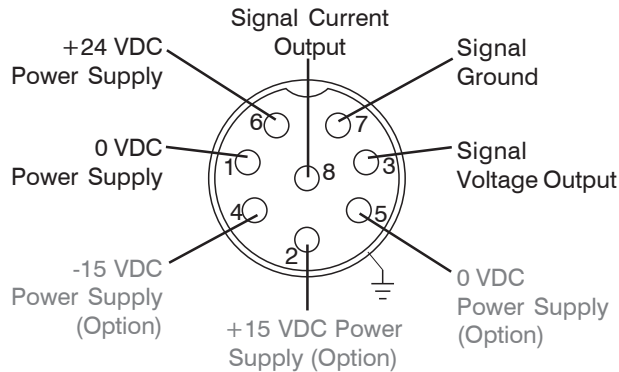

Fig. 5.1: Socket pin assignment and signal output for standard supply +24 VDC and optional supply (± 15 VDC)
- ➡ Connect the output cable to the 8-pole built-in socket (Fig. 5.1) on the controller with the enclosed plug.